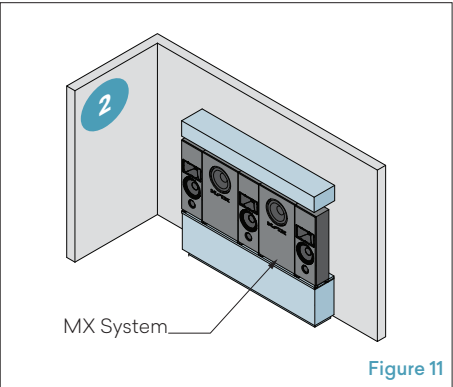

Figure 11
2. Place the MX System onto the cabinet or plinth. (Figure 11)